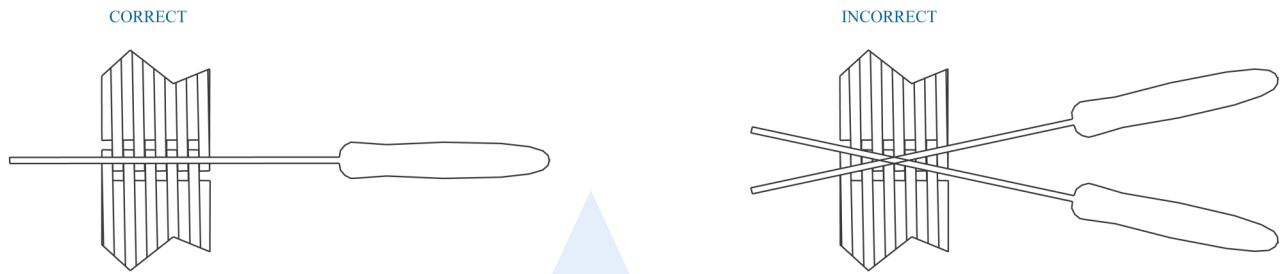

Fig 9
b). Whilst maintaining the attitude of the blade vertical (Fig 8) and parallel (Fig 9) to the intersection of the wheels; the blade should be traversed in a motion which maintains the profile of the edge in contact with the wheels and the line of the “V” form normal to the curvature of the blade (as in Fig 7).
The component should be kept constantly moving in the forward and backward motion to ensure an even grind over the length of the blade edge and reduce the risk of overheating. Blades should be first applied to and removed from the wheels in the middle of the width available (Fig 9)